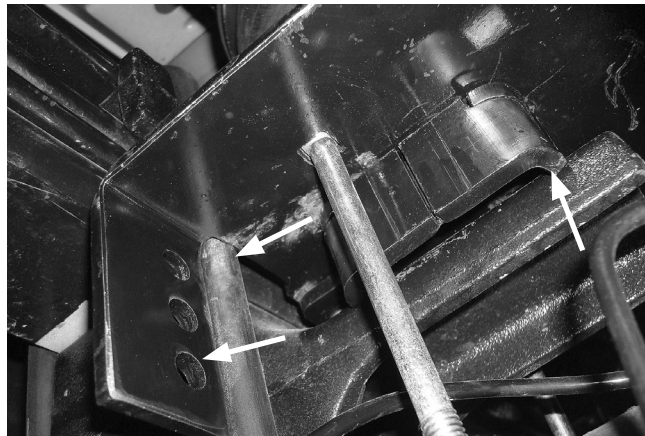

Fig. 27
2. Once assemblies are in position on the jounce bumper strike plate or axle, push the lower bracket so that it is flush against the leaf spring stack and both flanges on the lower bracket are locked around the stock U-bolts (Fig. 27).